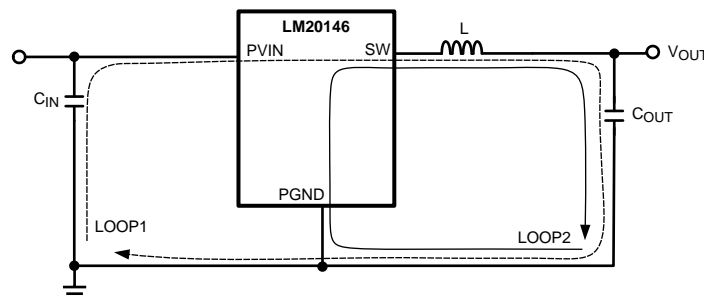

Figure 37. Schematic of LM20146 Highlighting Layout Sensitive Nodes
1. Minimize area of switched current loops. In a buck regulator there are two loops where currents are switched rapidly. The first loop starts from the input capacitor, to the regulator VIN pin, to the regulator SW pin, to the inductor then out to the output capacitor and load. The second loop starts from the output capacitor ground, to the regulator PGND pins, to the inductor and then out to the load (see Figure 37). To minimize both loop areas the input capacitor should be placed as close as possible to the PVIN pin. Grounding for both the input and output capacitor should consist of a small localized top side plane that connects to PGND and the die attach pad (DAP). The inductor should be placed as close as possible to the SW pin and output capacitor.